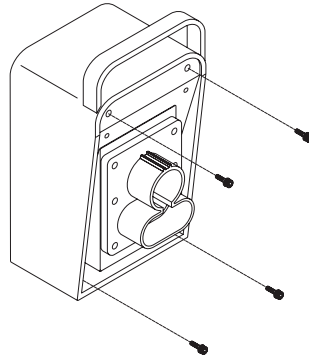

Fig. 8: Installing Charging connector holder
1. Remove the four screws from front cover of charging connector holder (see Fig. 8).